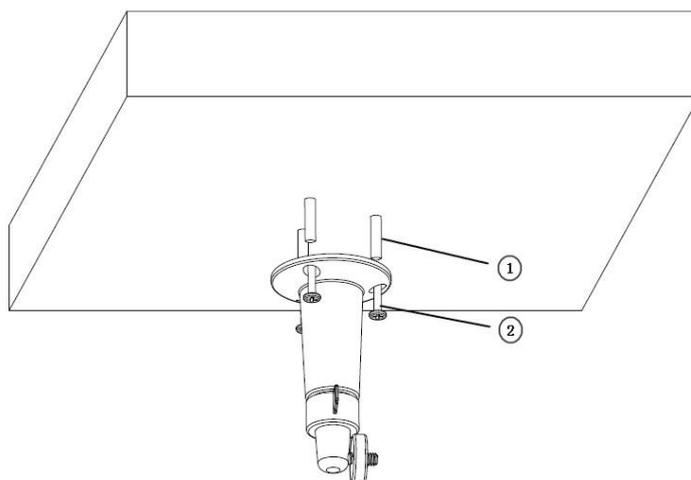

Figure 3.4.1 Fix camera mounting bracket
If it is cement wall, you need to fix the expand bolt (note: the mounting hole of the expand bolt should align with the bracket) before fixing the bracket as step ① in Figure 3.4.1. If the wall surface is wooden, the step ① in Figure 3.4.1 can be ignored and you can use the self-tapping screw to fix the bracket directly. Please note that the wall on which the camera is fixed should be able to bear at least three times the weight of the bracket and the camera.